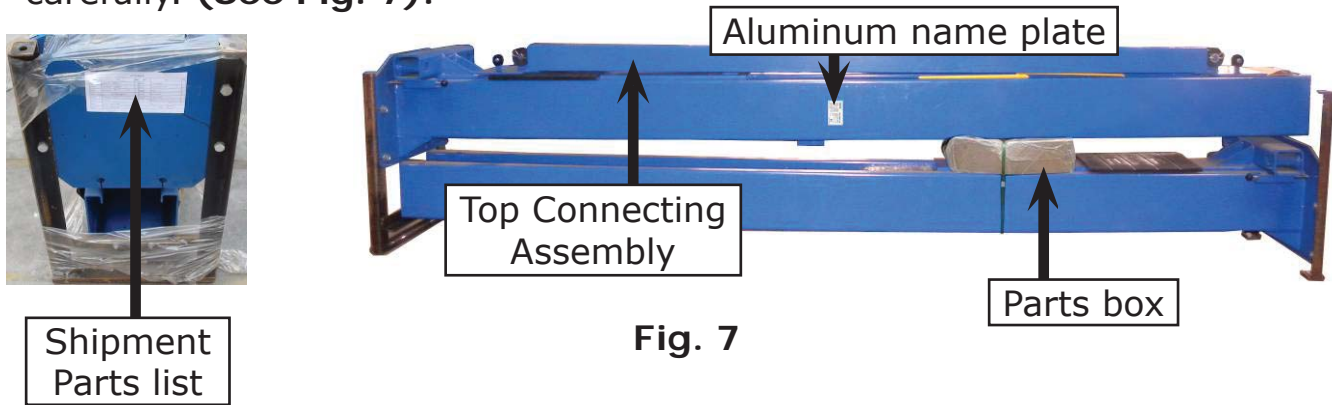

Fig. 7
2. Move the lift aside with a fork lift or hoist, and open the outer packing carefully. **(See Fig. 7).**